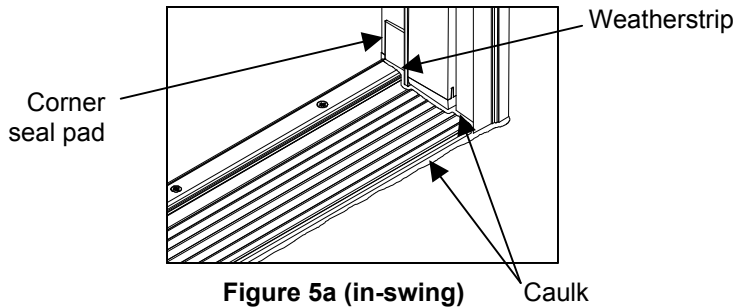
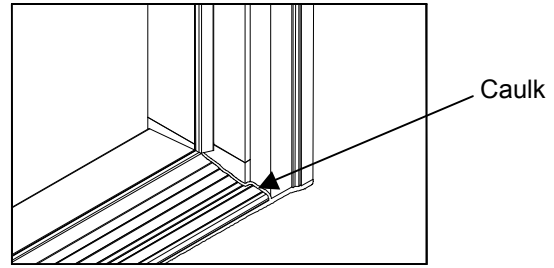

Figure 5a (in-swing) Caulk
Figure 5b (out-swing)
- 5 IMPORTANT:** For in-swing doors, install two corner seal pads (included in the installation kit) at each of the jamb bottoms of an active door per Figure 5a. For a double door system, verify that a corner seal pad is installed at the bottom of the active door side of an astragal. The corner seal pad should be tucked underneath the weatherstrip. Caulk at the intersection of the jambs, brickmolds, threshold and floor. For out-swing doors, also caulk at the intersection of the jambs, brickmolds, threshold and floor per Figure 5b.